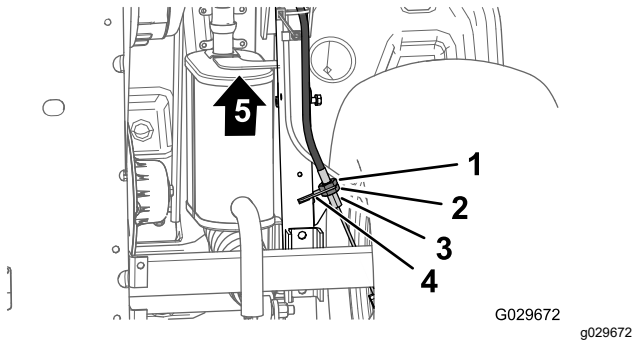

Figure 63
3. At the bottom of the machine, loosen the rear jam nut for the threaded adjuster of the parking-brake cable 4 turns (Figure 63).
4. Tighten the forward jam nut (Figure 63).
- A. Loosen the forward jam nut (Figure 63) for the threaded adjuster of the parking-brake cable 1 turn.
- B. Tighten the rear jam nut (Figure 63).
- A. Loosen the rear jam nut (Figure 63) for the threaded adjuster of the parking-brake cable 1 turn.
- B. Tighten the forward jam nut (Figure 63).